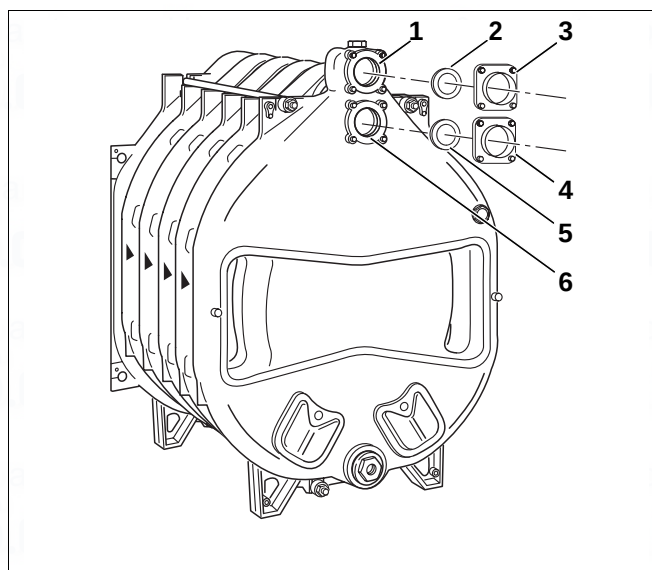

Fig. 23 Installation – connection flange
- ▶ The weld neck flange (with welded-on pipe) is fitted to the upper boiler hub (Fig. 23, [6] – return connection) if the return is connected at a later stage. The weld neck flange and flat gasket are shown in (Fig. 23, [4] and [5]).
The flow connection flange (Fig. 23, [3]) with flat gasket (Fig. 23, [2]) is required for connecting the flow at a later stage (Fig. 23, [1]).